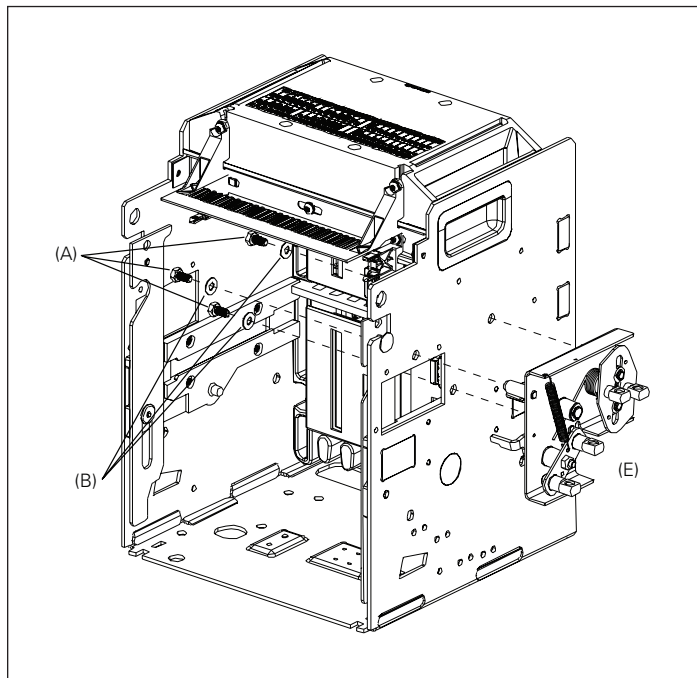
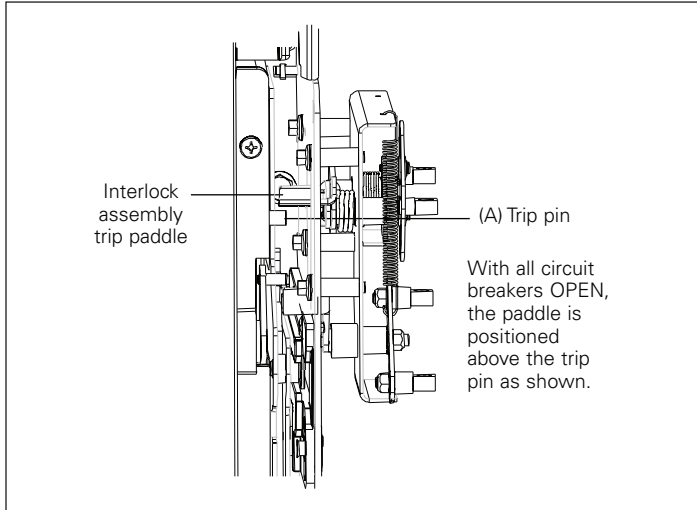

Figure 6. Details for Step 3
Figure 7. Details for Step 3
Fasten interlock assembly (E) to drawout cassette's right-side sheet using three M6 x 12 mm hex bolts (A) and lock washers (B) as shown in **Figure 6**. Torque to 4,5–5,6 N·m (40–50 in-lb). Ensure that once the breaker is racked in, the interlock assembly trip paddle is above the trip pin on the trip bar as shown in **Figure 7**.